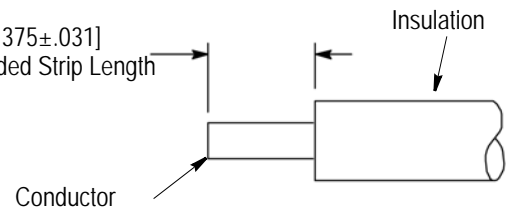

Figure 2
- Strip wires with 18 AWG solid copper conductors having a maximum insulation diameter of 2.18 mm [.086 in.] to the dimensions provided in Figure 2.